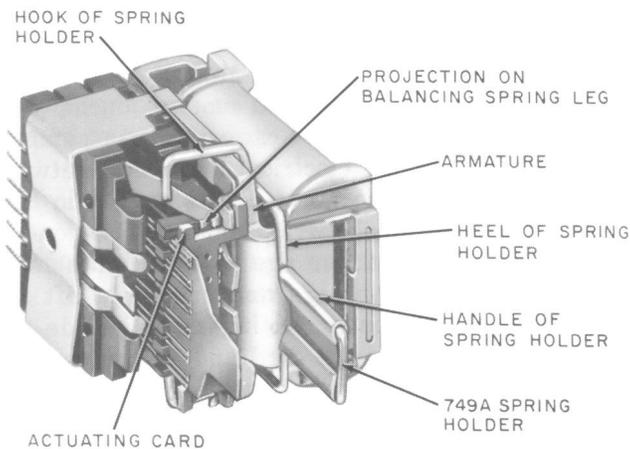

Fig. 6—Positioning 749A Spring Holder for Removal of Actuating Card
(3) To remove the actuating card, use the 749A spring holder as follows (refer to Fig. 6). Place the hooks of the 749A tool on the legs of the balancing spring directly behind the two projections on each leg. Press the 749A tool against the balancing spring legs to disengage the legs from the actuating card. Increase the pressure until the heels of the 749A tool can be positioned against the armature as shown in Fig. 6. Slide the hooks of the 749A tool along the spring legs until the handle of the tool is against the armature. Carefully disengage the card from the armature clamp plate and remove the card from the relay.
(4) To mount an actuating card, first make sure the 750A insulator and 749A spring holder